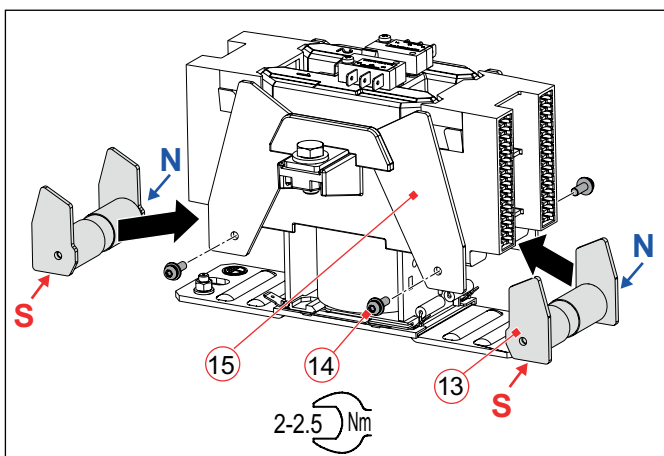

Fig. 40: C195 X/: Assembling the pole packs
▶ Before installing the pole packs (13), check the previously noted, correct alignment of the magnetic poles, see **Fig. 40**.
▶ Insert the two pole packs (13) one after the other into the pole plates (15) and screw them to the sides of the two pole plates (15) using the 4 screws (14).
▶ Tighten the 4 screws (14) with a torque of 2-2.5 Nm.